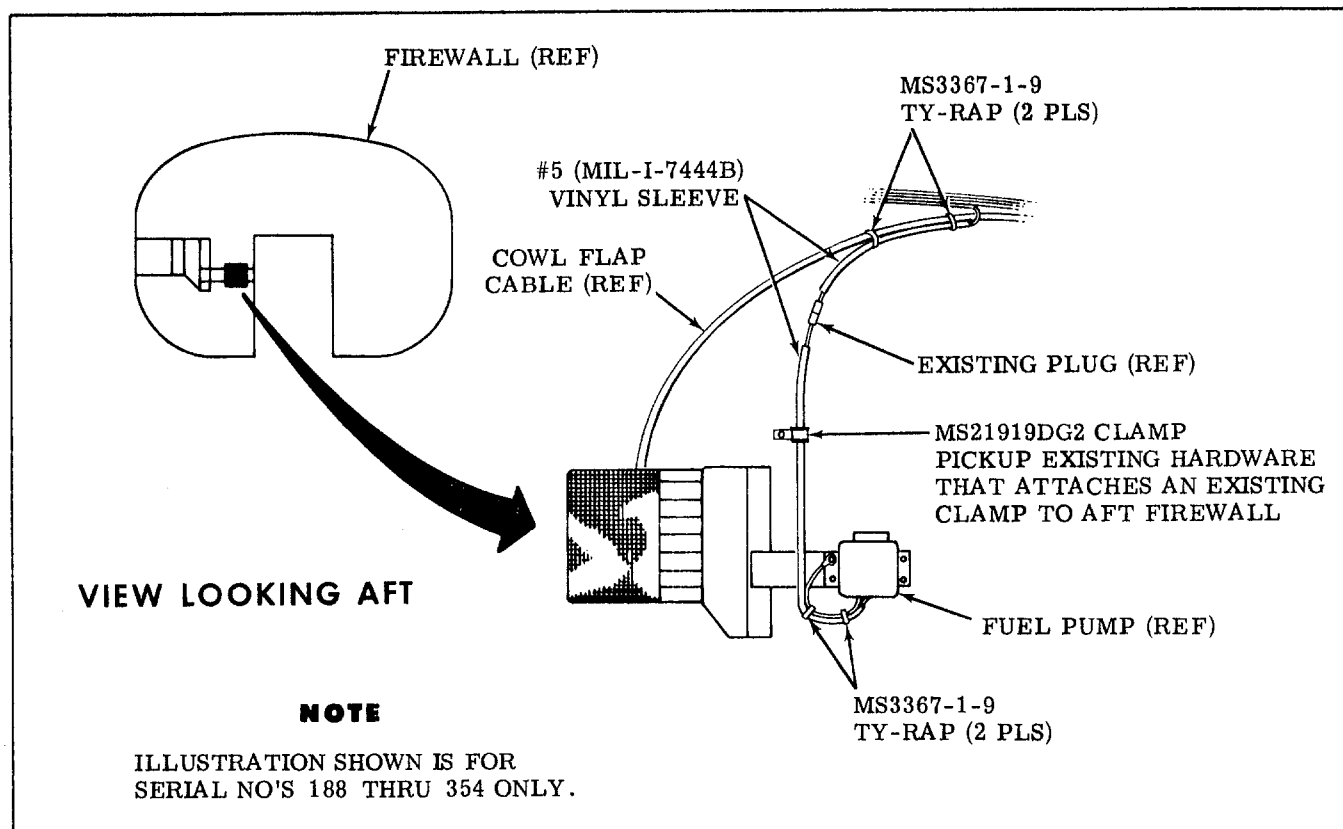

Figure 1.
5. On airplane serial numbers 188 thru 354, clamp fuel pump wire to firewall with MS21919DG2 clamp using existing hardware and secure wiring using MS3367-1-9 ty-raps as required (see Figure 1.).